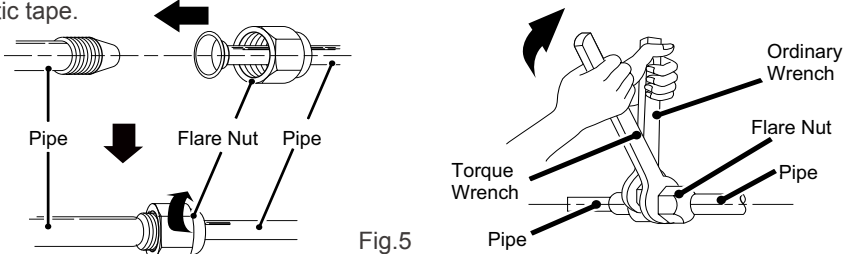

Fig.5
3. After that, tighten the screw by the torque wrench unit it clatters (as shown in Fig.5).